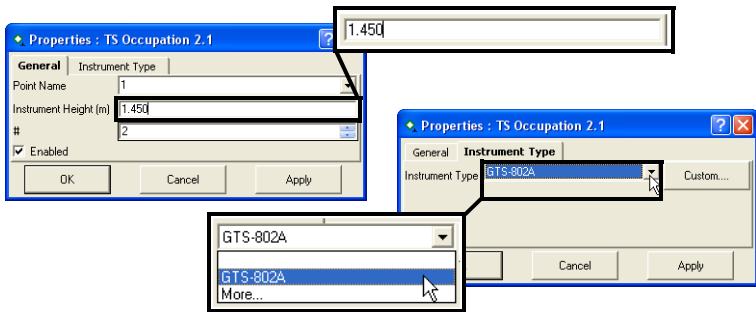

Figure 5-75. Enter New Parameters
- On the *General* tab, edit the height of the instrument as needed (Figure 5-75 on page 5-49).
- On the *Instrument Type* tab, edit the type of instrument used as needed (Figure 5-75).